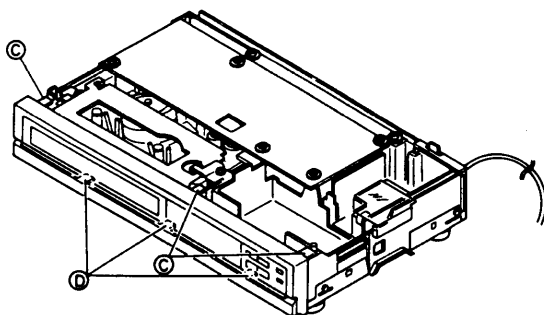

Fig. 1-1-2
2. Carefully disengage 3 tabs (C) of the front panel assembly from the upper side of the chassis.
3. Refer to Fig. 1-1-2 and pull the front panel assembly forward you to disengage 3 tabs (D) of the front panel assembly from the bottom side of the chassis, then remove the front panel assembly.